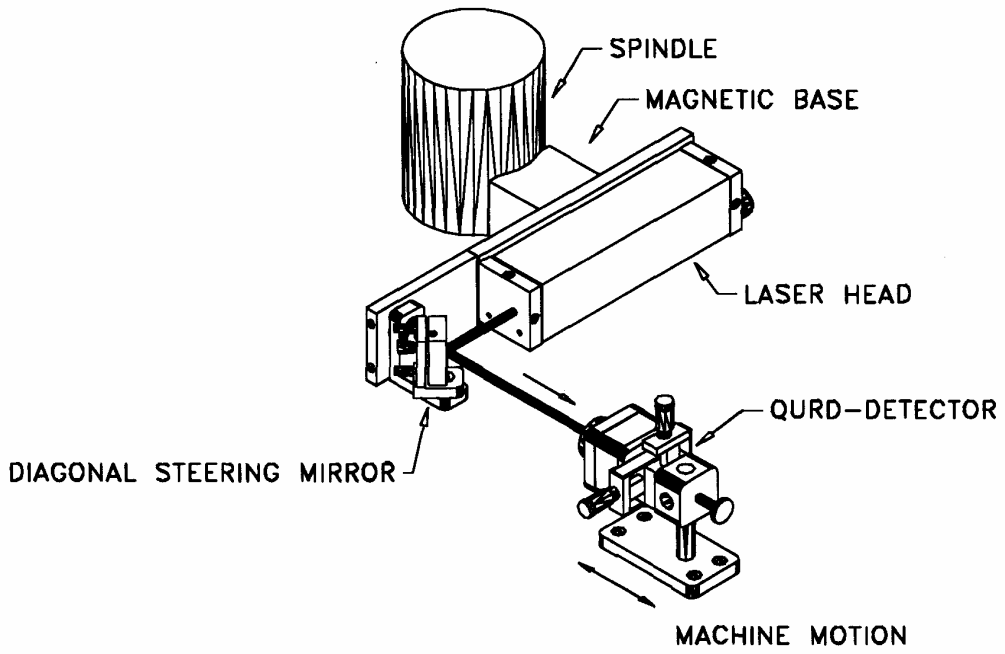

FIG. 10-16 SPINDLE MOUNT
3. The spindle mount as shown in Fig. 10-16 is 'more convenient' when only X-axis and Y-axis straightness need to be measured.